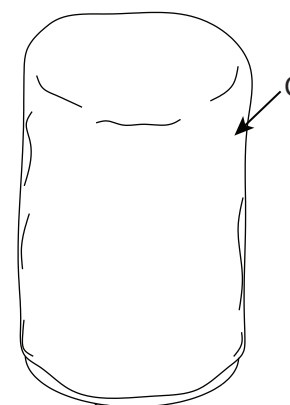

Figure 5
5. Cover the fire pit with the outdoor weather cover (C) when not in use to protect it from the elements or when fire pit is cool COMPLETELY after the use, (See Figure 5).